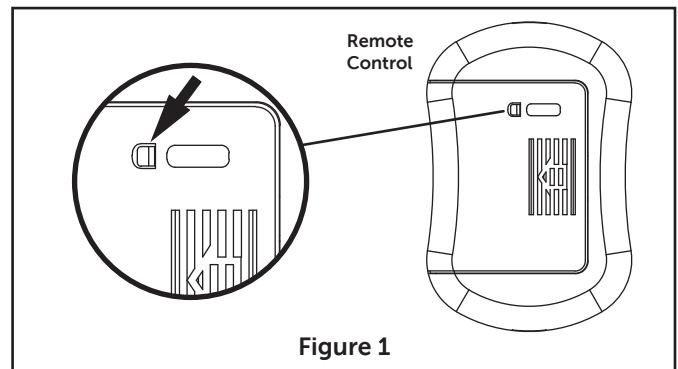

Figure 1
- ☐ 1. Remove battery cover with a small screwdriver or ball point pen firmly press the tab and slide battery cover off. (Figure 1)
- ☐ 1. Unthread two screws from the wall switch plate. (Figure 1)
1. Drill the two 1/4" holes in wall and use the M6 plastic anchor pushed into the holes. Install the control bracket with two #3- 1" self tap screws. Push the four plastic plug to cover the screw holes. (Including in the control packaging). (Figure 1)